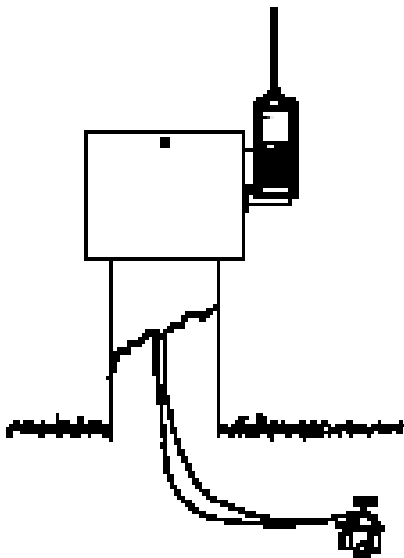

FIGURE 1
The housing can be mounted to the right side of the irrigation controller (Figure 1) or mounted to a wall (Figure 2)
Plug the receiver directly in the connector as shown in figure 1. When the receiver is not in use, close and secure the housing door (4) by tightening the Allen head screw with a 3-32" Allen wrench. **IMPORTANT: Do not over torque the Allen head screw, it should be snug.**